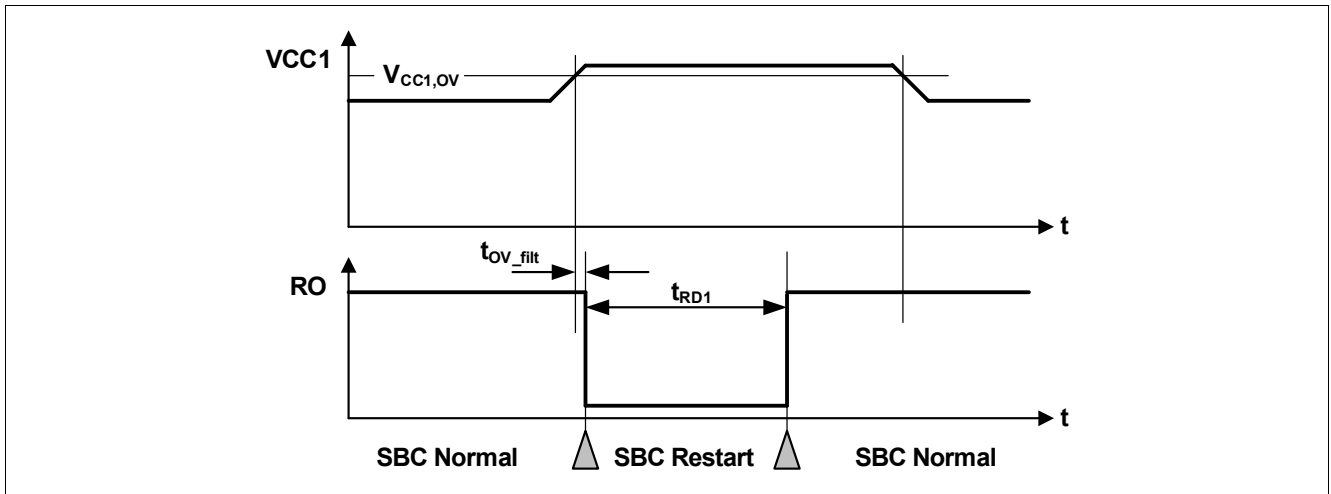

Figure 41 VCC1 Over Voltage Timing Diagram
- If the bit **VCC1\_OV\_RST** is set and **CFGP** = '1', then SBC Restart Mode is entered. The FOx outputs are activated. After the reset delay time ( $t_{RD1}$ ), the SBC Restart Mode is left and SBC Normal Mode is resumed even if the VCC1 over voltage event is still present (see also Figure 41). The **VCC1\_OV\_RST** bit is cleared automatically;